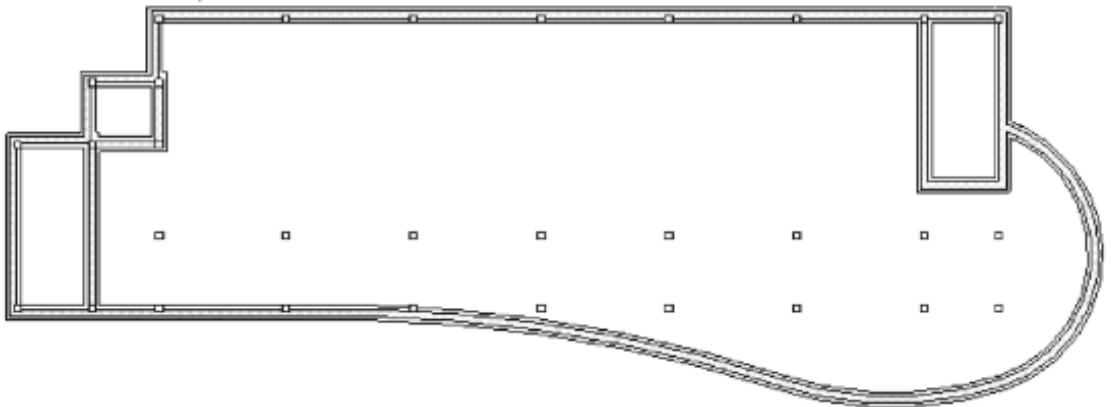

Figure 4–33
3. Click  (Pick Line) and select the core center line of all the foundation walls. The wall footings display as shown in Figure 4–33. You add column footings later.